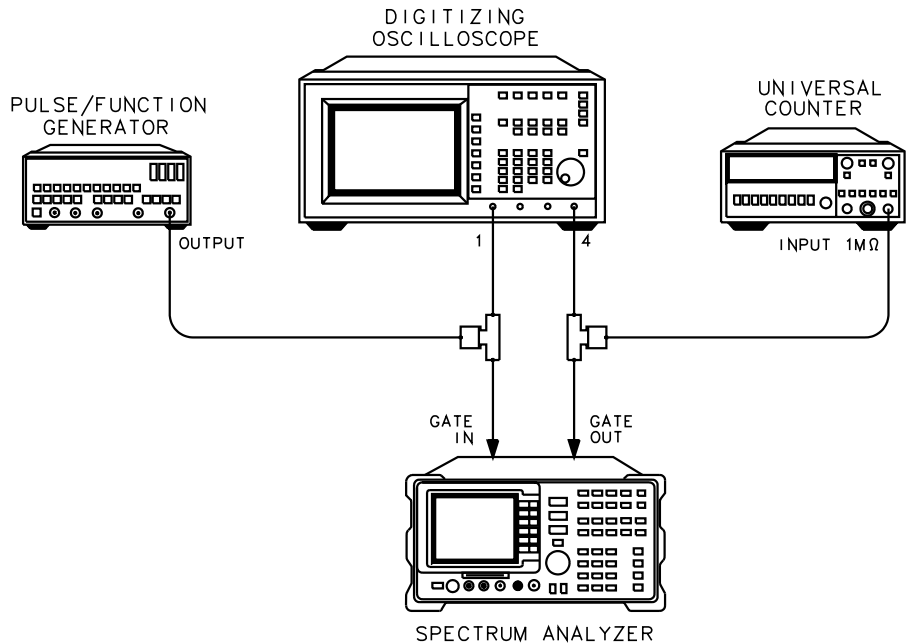

Figure 68
- 1 Connect the equipment as shown in Figure 68.